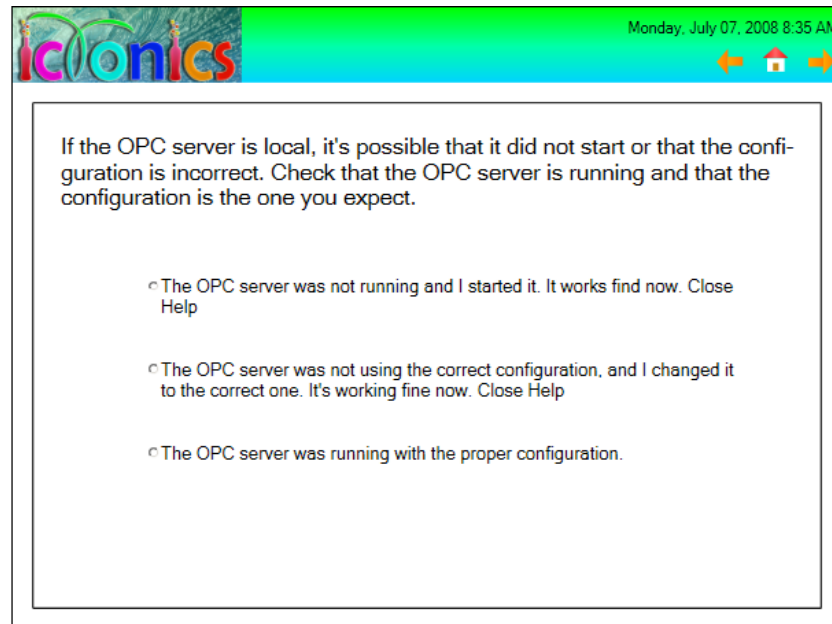

Figure L1.6 - Screen5
18. Repeat step 11, and name the group Screen5 and make it look like Figure L1.6.